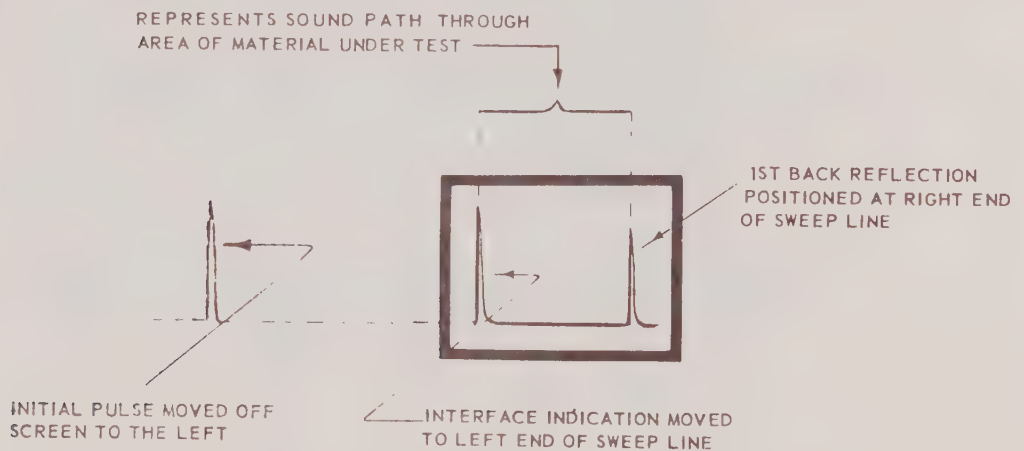

Figure 3-29 Use of Delay Control Position Interface
- q. Adjust Sweep to move first back reflection to the right end of the sweep line, thus presenting on the CRT only the material depth. (Figure 3-29)